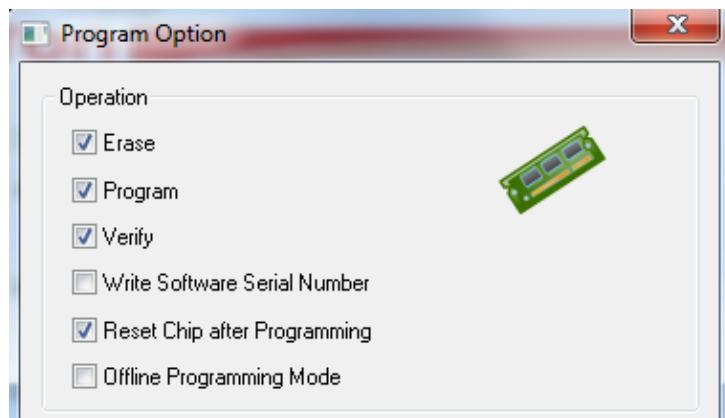

Figure 4-3 Program Option Select
6. Select “Erase”, “Program”, “Verify”, and “Reset Chip after Programming” options, as shown in Figure 4-3.